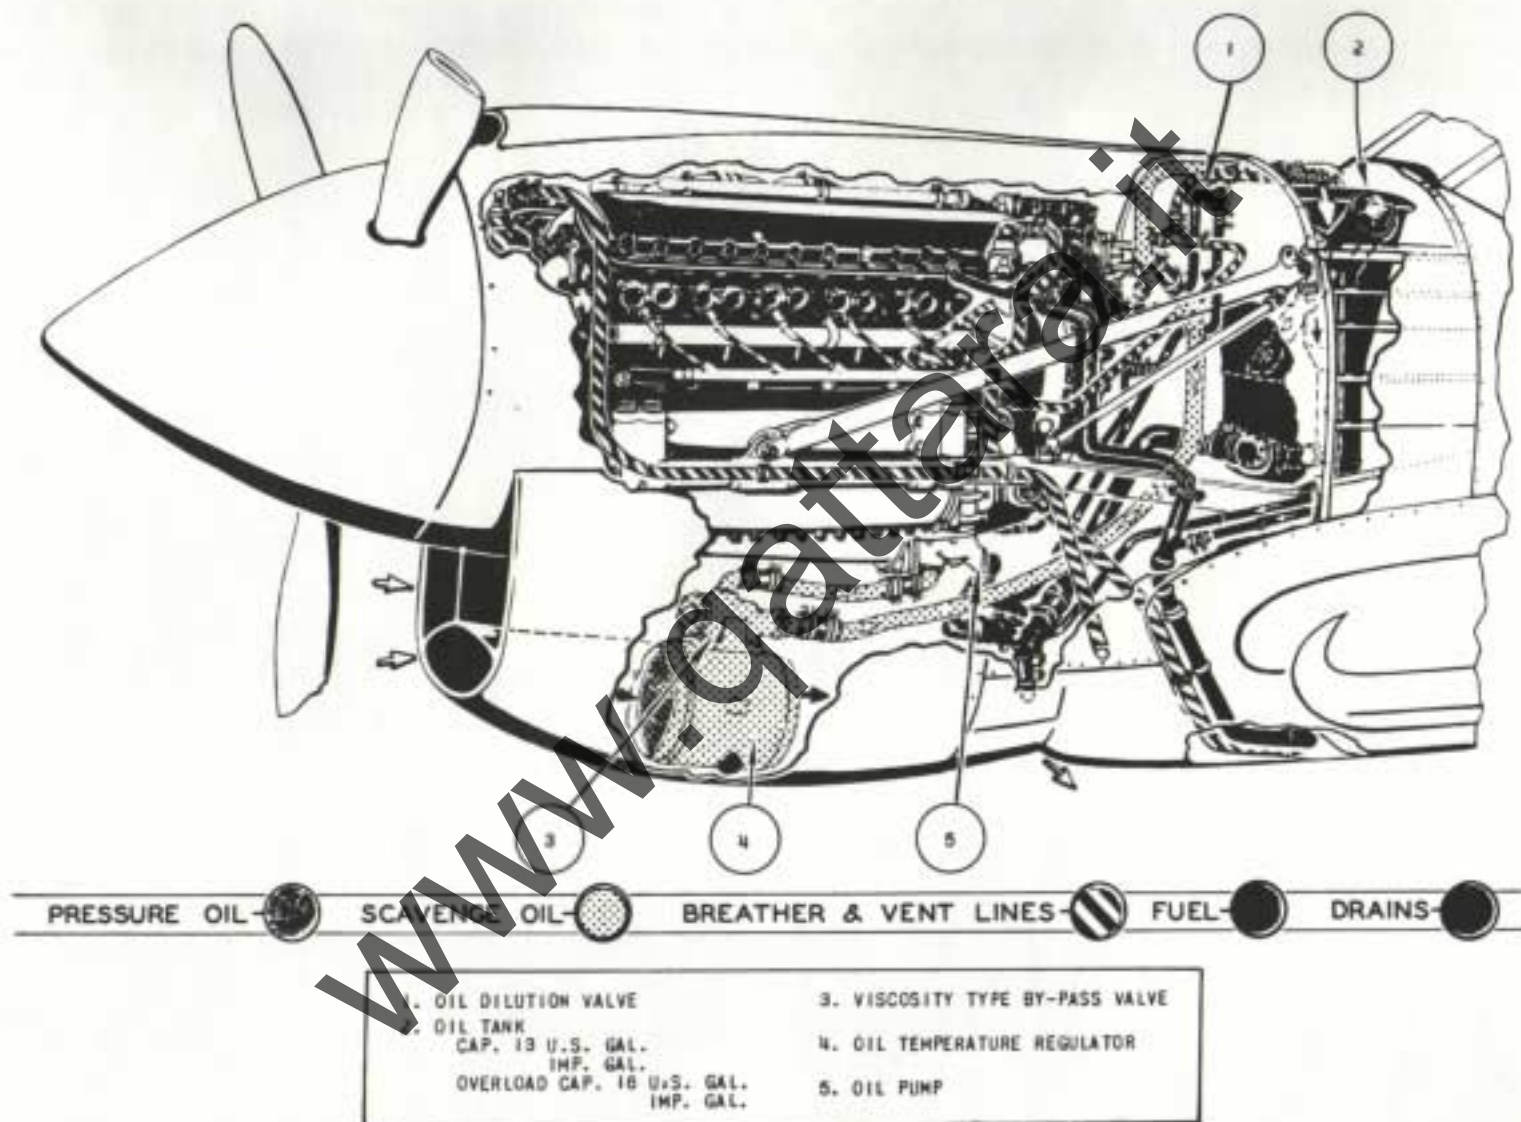

Figure 5 - Oil System Diagram
g. Oil System. - See figure 5. Oil dilution is provided.